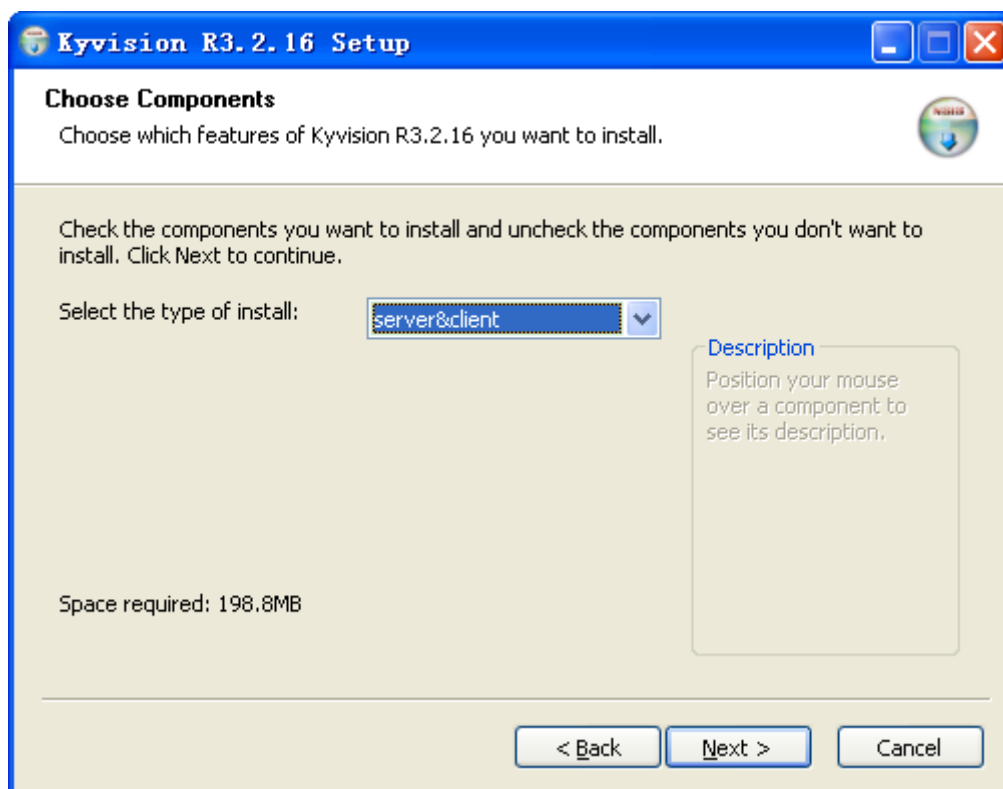
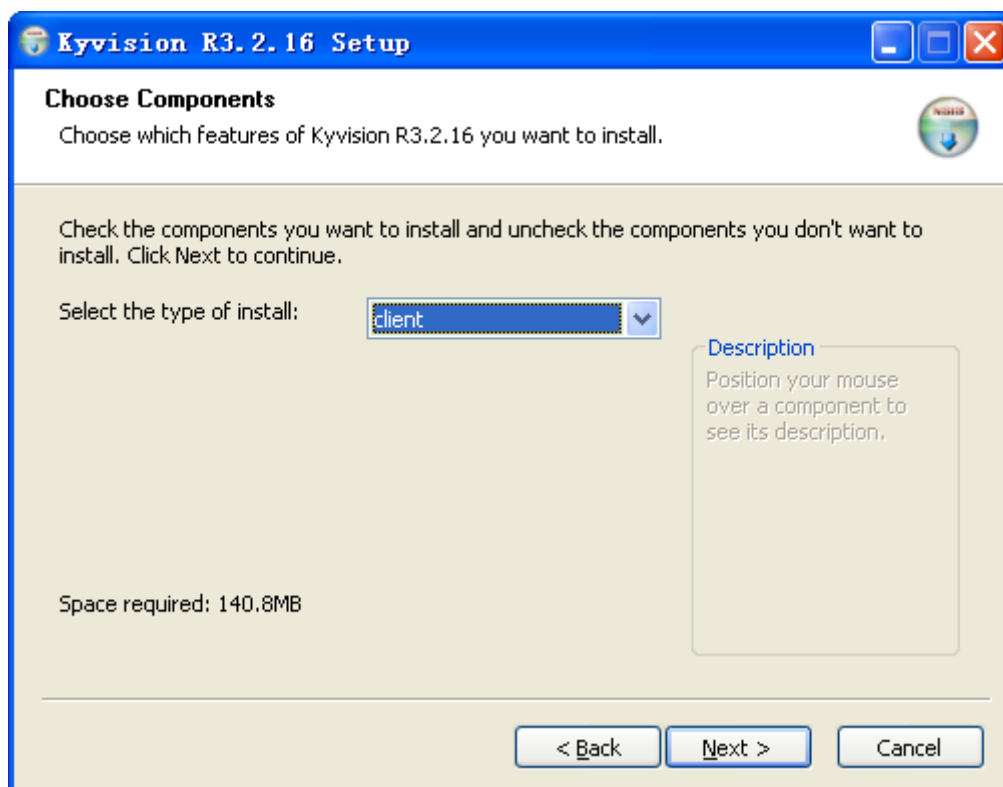

Figure 4 Server Components
Figure 5 Client Components
4.Select the installation mode, server&client (as shown in Figure 4) or client mode (as shown in Figure 5). Click <Next>.